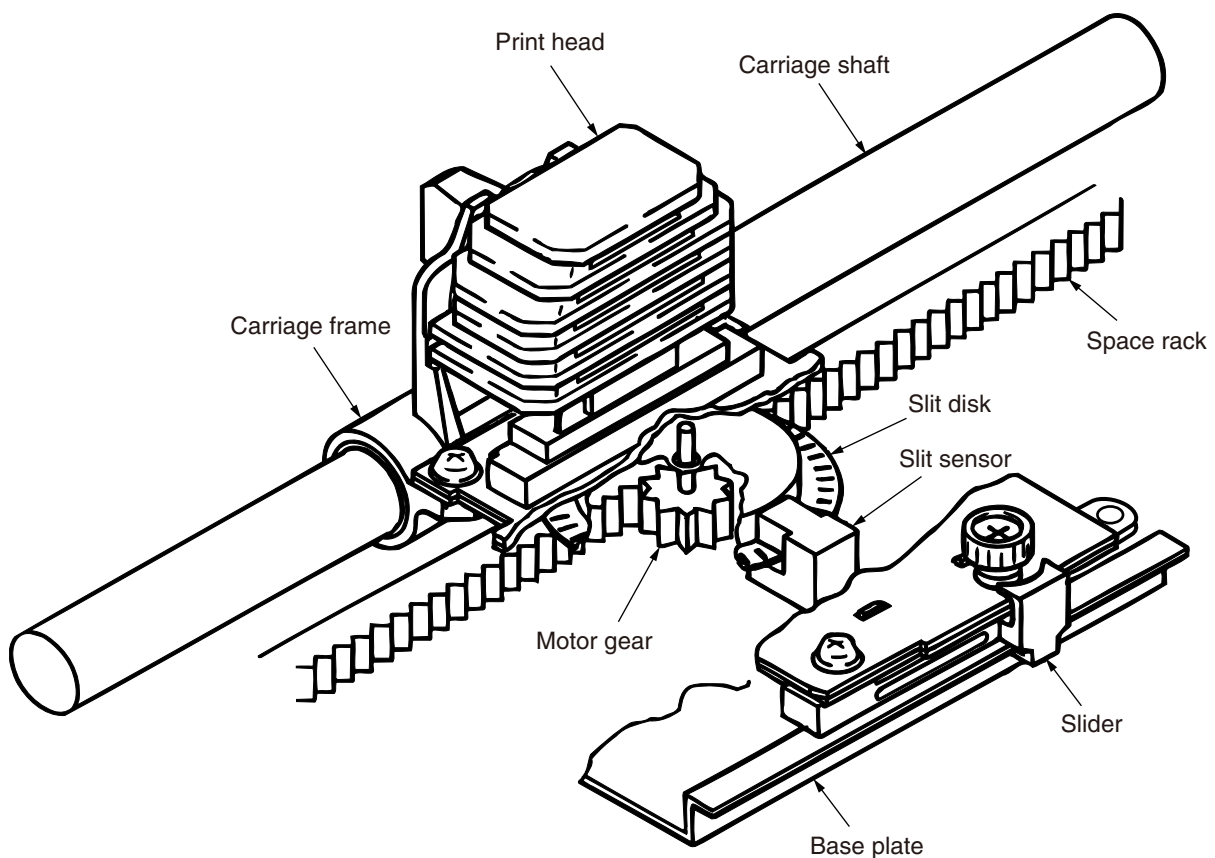

Figure 4
2.2.2 Spacing Mechanism and Operation (see figure 4)